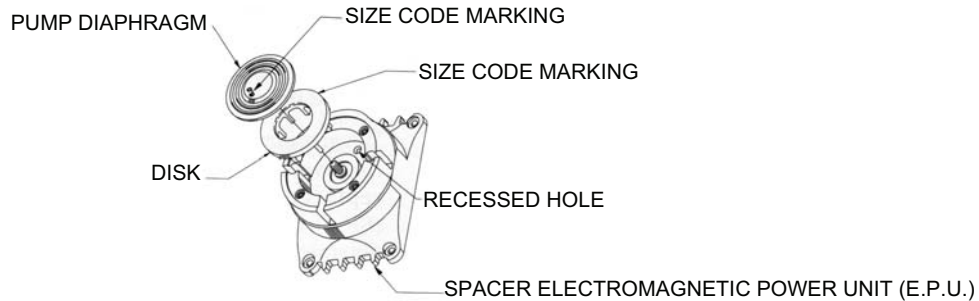

Figure 11. Pump Diaphragm Removed from Pump Head Spacer.
- f. Remove the pump diaphragm from the spacer by carefully grasping the outer edge of the diaphragm and turning it counter-clockwise (see Figure 11).
2. Install the new pump diaphragm as follows (see Figure 11):